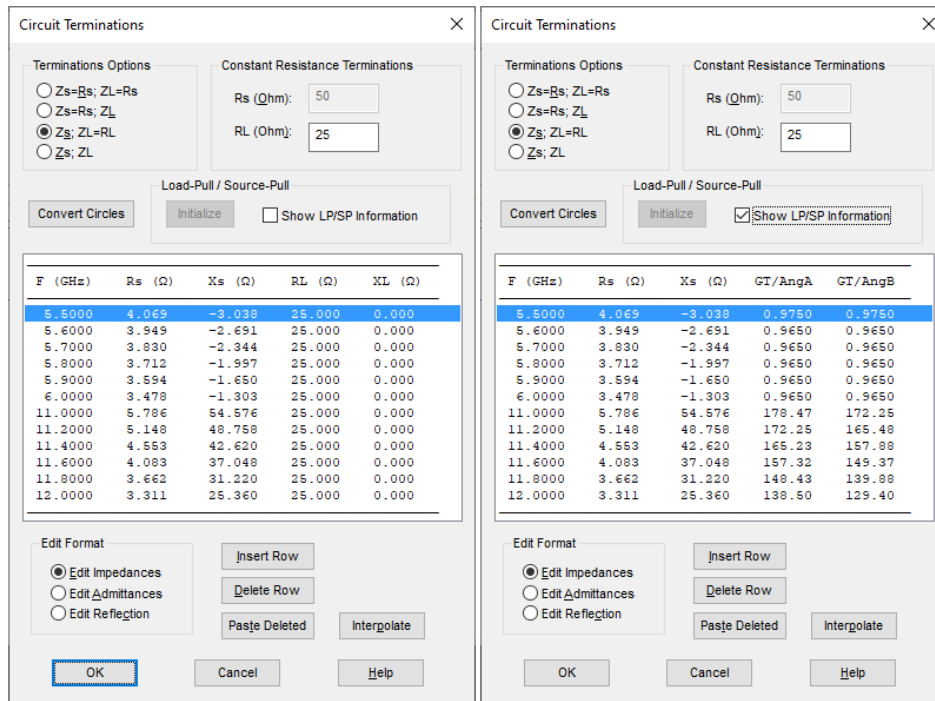

Figure 9. The terminations of an ADW / MW circuit can be viewed or edited by using the Project | Terminations menu command. Note the Convert Circles option.
Note that the terminations specified for an ADW / MW circuit file can be viewed or edited by using the Project | Terminations menu command (see Figure 9). The option to calculate the equivalent passive problem associated with a Smith chart circle (load-pull or source-pull circle) is also provided in the dialog box opened. The Show LP/SP Information option can be used to view or edit the transducer power gain (fundamental frequencies) and the edge intersect angles (harmonic frequencies) specified for a load-pull or source-pull matching problem. The Initialize command should be used to convert the specifications for standard source or load terminations to load-pull or source-pull format.
2. Specify the circuit terminations to be the conjugates of the load-pull or source-pull targets at the fundamental frequencies and the conjugates of the harmonic sector origins at the harmonic frequencies (Use the Project | Terminations menu command – The dialog box shown in Figure 9 will then be opened). If a circle instead of a point will be targeted at a fundamental frequency, use the source or load impedance associated with the equivalent passive problem instead of the load-pull or source-pull impedance. Use the Convert Circles command to calculate the equivalent passive problems.
3. With the circuit terminations at the fundamental and harmonic frequencies specified, use the Initialize command shown in Figure 9 to convert the specifications for the source terminations or the load terminations to ADW load-pull or source-pull format. Edit the transducer power gain values (fundamental frequencies) and the Smith chart intersect angles (harmonic frequencies) as required. The sequence of the intersect angles must be for clockwise rotation from the first angle (*AngA*) to the next (*AngB*).